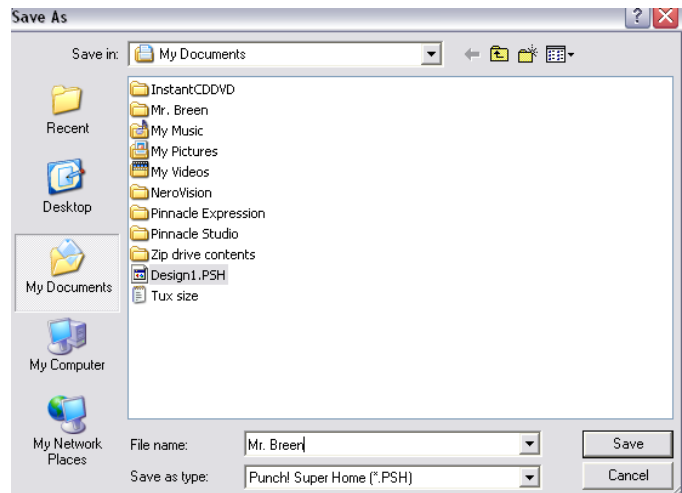

Figure 34
1. The first step is to open the **File** menu and choose **Save As**. This will bring up the dialog box in **figure 34**. Using the **toggle button** select the place that you have been directed to save your work (i.e.: floppy drive, hard drive, or network drive, under your name on the network drive).